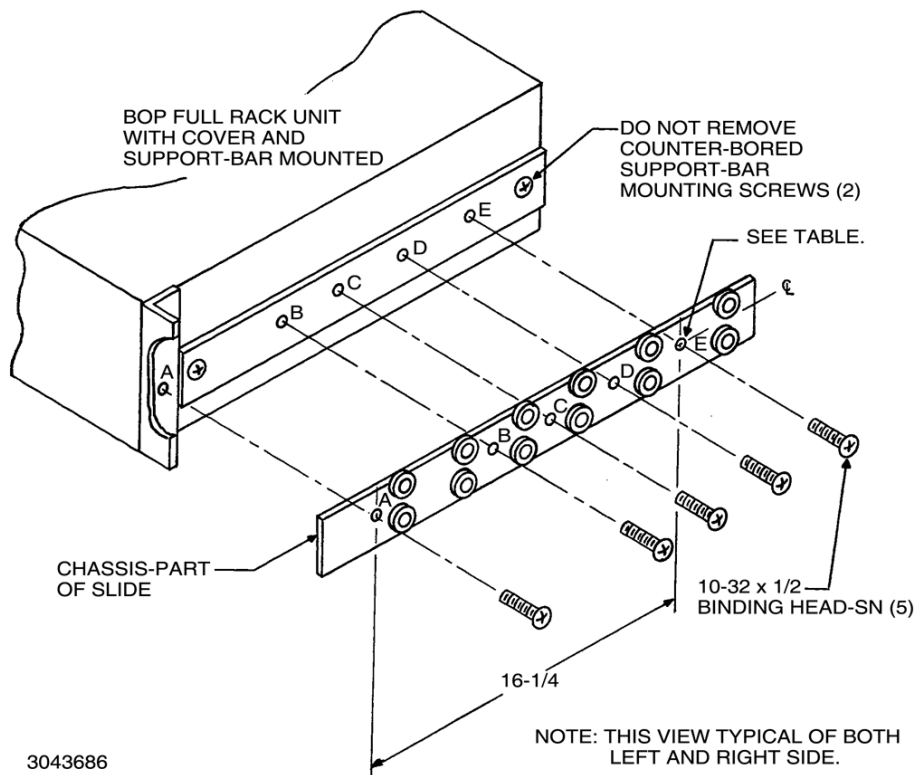

FIGURE 2-4. SLIDE INSTALLATION ON FULL-RACK UNITS
To install the slides, refer to Figure 2-4 and proceed as follows:
4. Mount the chassis section of the slide to the left and right side of the BOP as shown in Figure 2-4. Use the same 10-32 x 1/2" mounting screws removed in step 1.